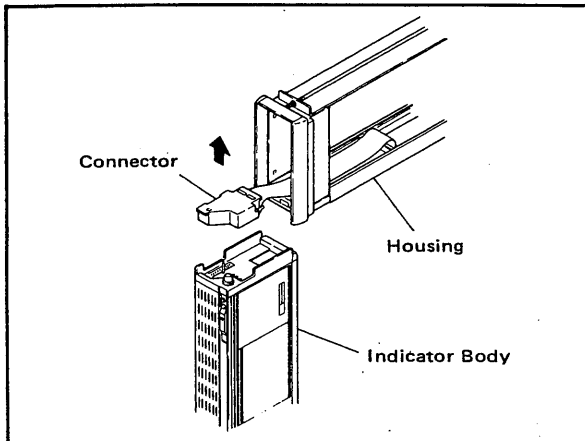

Figure 5-2-3. Detaching the Connector.
- (3) Detach the connector from the instrument module. The instrument module is now separated from the housing. (See Figure 5-2-3).